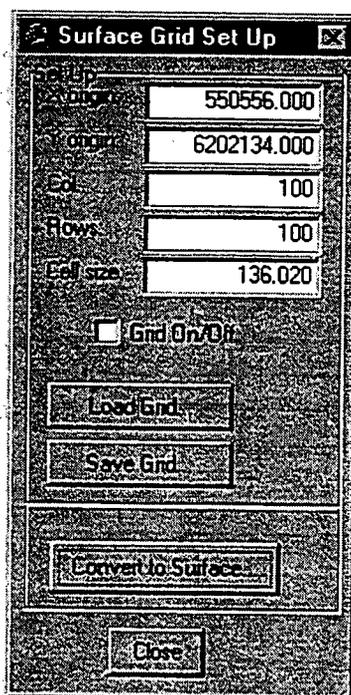

Figure 22 Surface Grid Set Up Dialog.
- Press the **Convert to Surface** button to open the **Convert to Surface** dialog box, see Figure 22.
This menu allows the user to define the themes that should be converted to surfaces using the defined surface grid set-up, see Figure 22.
Convert to surface: Converts all the themes in the list to surfaces (ArcView grids) using the model grid definition from the surface grid set-up, see Figure 22. Prior to using this option the surface grid set-up must be done. Uses a default interpolator which is Inverse Distance Weighted (IDW) with a power of 2, no barriers, and a variable Radius of 12 points with no maximum distance.